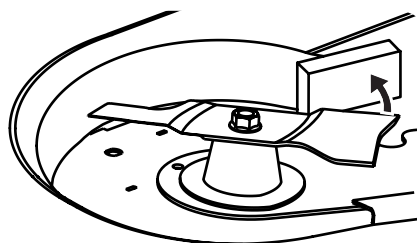

Figure 54
1. Secure the blade from turning counter-clockwise during service by placing a block of wood between the blade and the deck housing, see Figure 54, or wrap a rag around one end of the blade and wear heavy gloves to grasp the blade firmly.